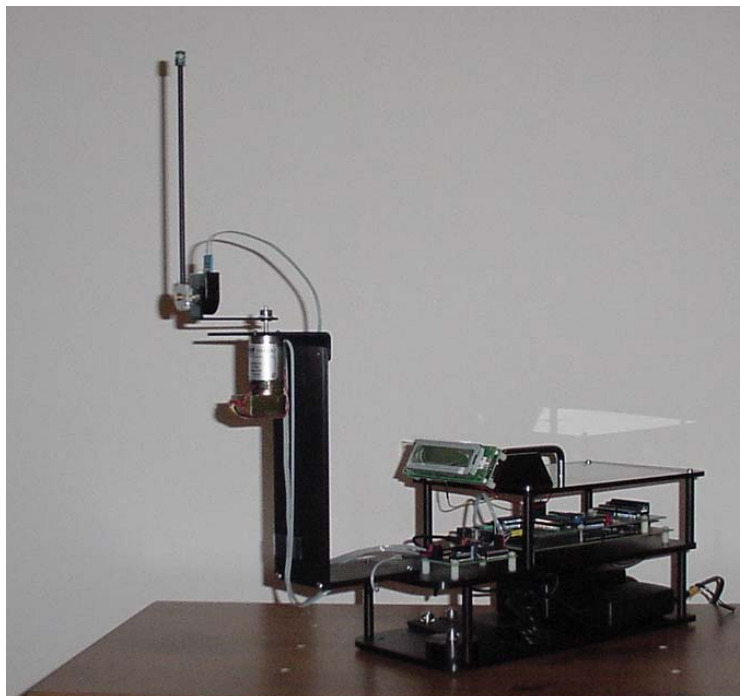

Figure 5-14: Completed Furuta Pendulum Setup
1. First assemble the Furuta upright assembly as shown in Figure 5-14. Use the two quarter inch aluminum pieces along with the motor mount to assemble the kit in this configuration. There are 4 ½” 6-32 screws that you will use to assemble the furuta’s stand. Mount the motor to the motor mount using three 2-56 screws orientated so that the encoder connector faces away from the base. Tape the cables to the upright assembly so they are out of the way of the linkage.